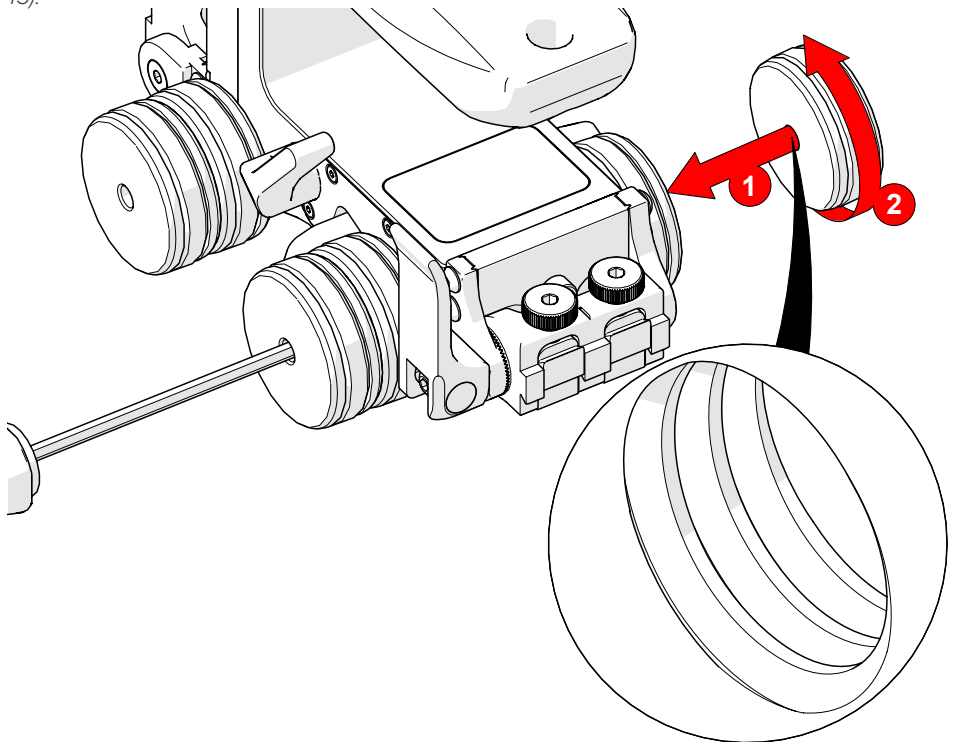

Fig. 67 - Magnetic wheel kit
An additional magnetic wheel kit can also be used on the cart body, thus doubling the magnetic force (*Fig. 67*).
2. On the magnetic wheel to be attached, locate the threaded side of the magnetic wheel, and orient the threaded side towards the cart (*Fig. 67*).